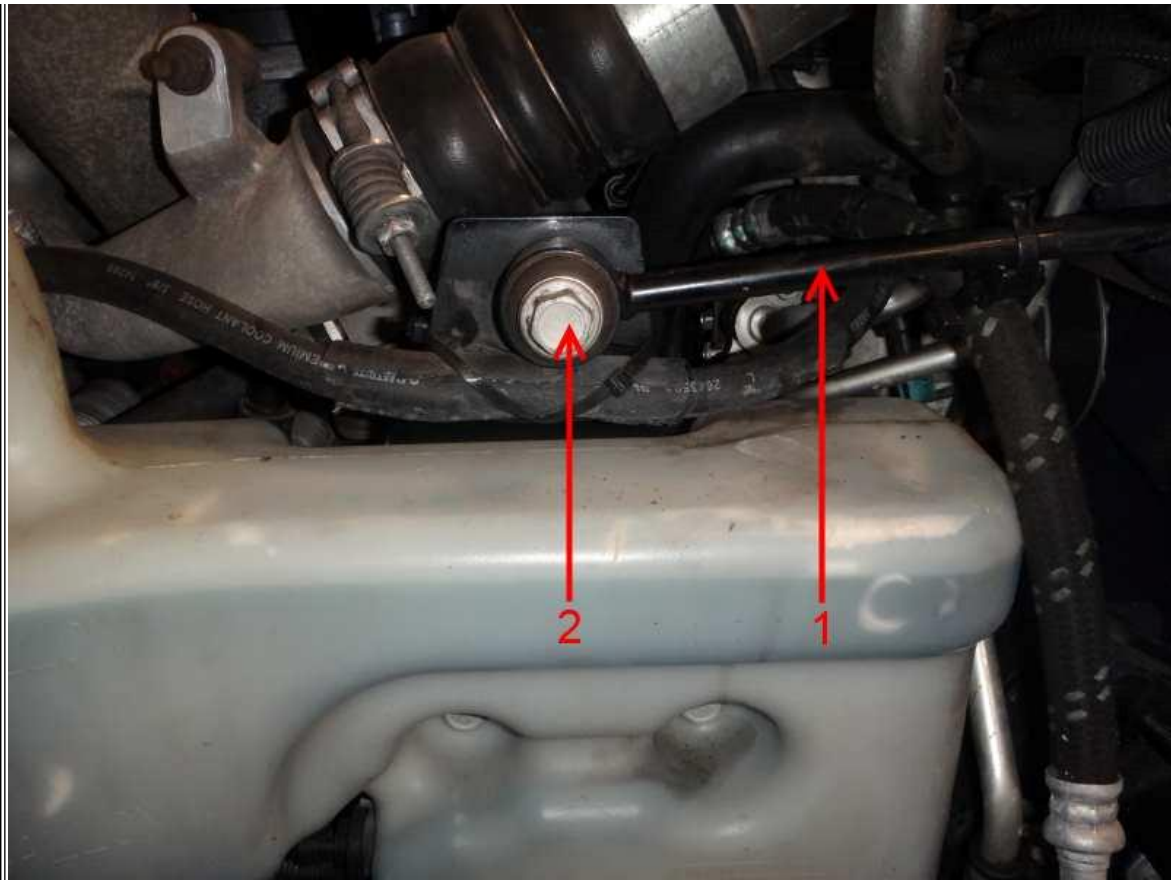

Figure 11: Passenger Side Radiator Support
23. Remove the nut and bolt from the passenger side radiator support rod, at the frame (**Figure 11**, Item 2).